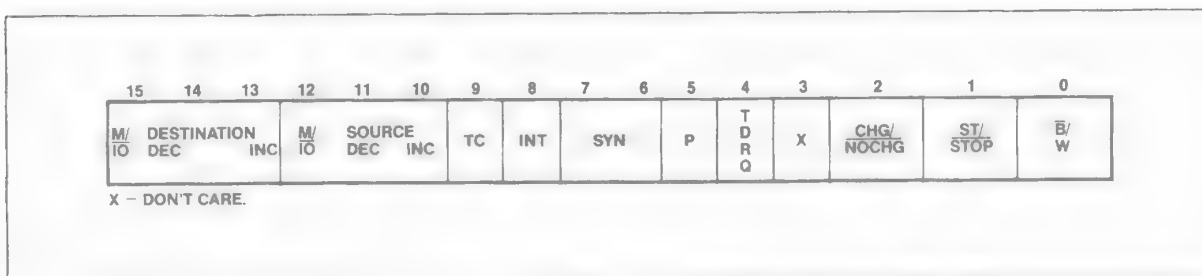

Figure 18. DMA Control Register
Each channel has six registers in the control block which define each channel's specific operation. The control registers consist of a 20-bit Source pointer (2 words), a 20-bit Destination pointer (2 words), a 16-bit Transfer Counter, and a 16-bit Control Word. The format of the DMA Control Blocks is shown in Table 13. The Transfer Count Register (TC) specifies the number of DMA transfers to be performed. Up to 64K byte or word transfers can be performed with automatic termination. The Control Word defines the channel's operation (see Figure 18). All registers may be modified or altered during any DMA activity. Any changes made to these registers will be reflected immediately in DMA operation.